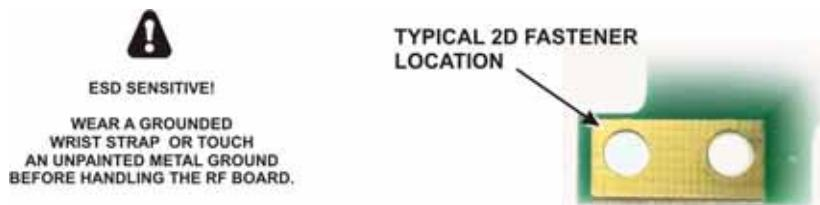
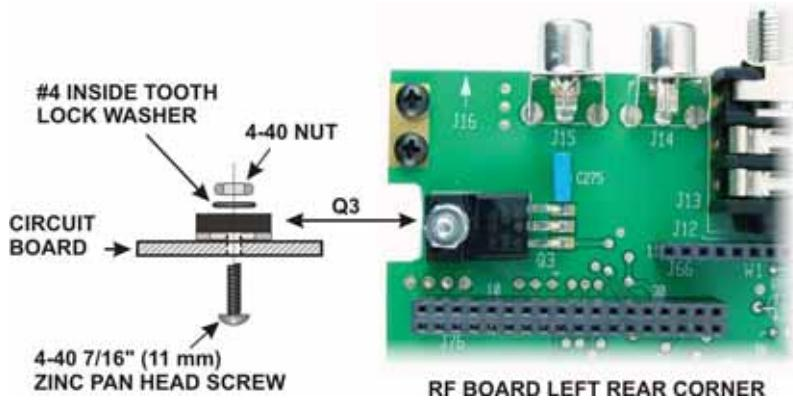
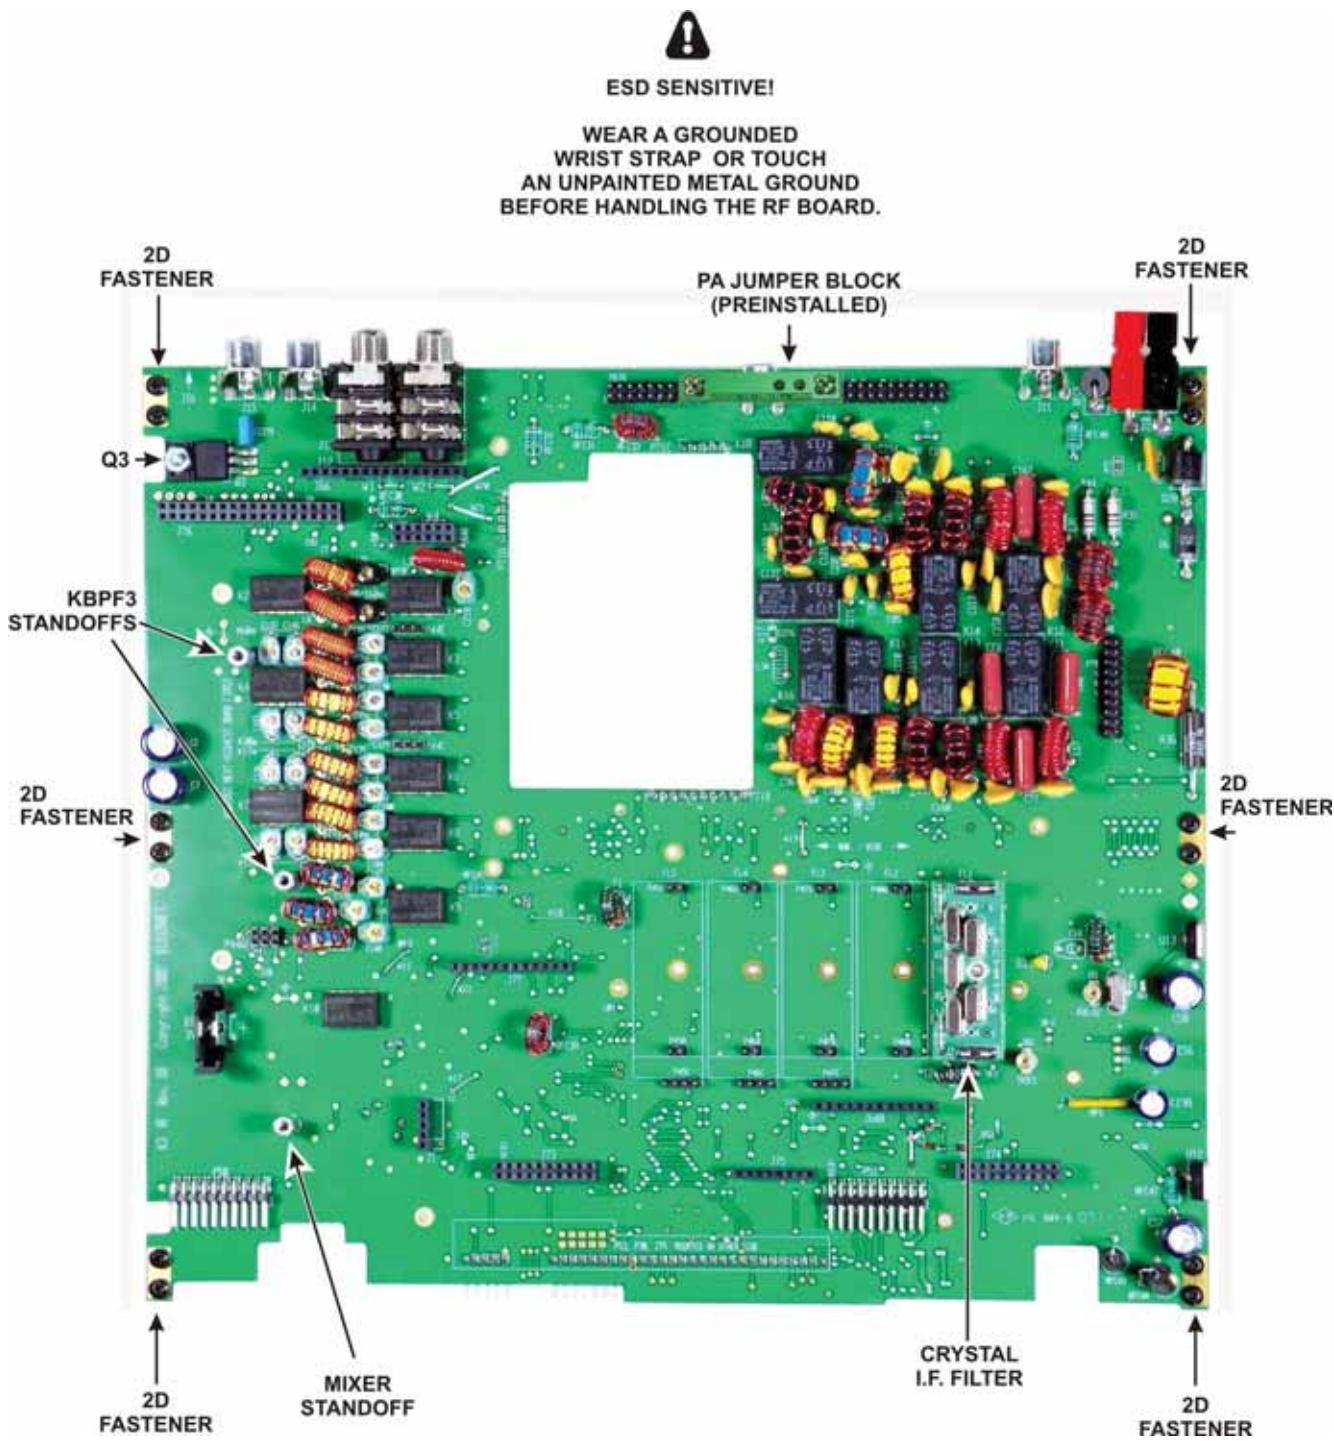

Figure 5. 2D Fastener Location on RF Board.
Figure 9. Installing Q3 Hardware.
Figure 11. RF Board Partially Assembled.
- Remove the RF board from its anti-static packaging. The top side of the board is the side with the toroid inductors and relays along with other components, including several connectors along one edge. The edge with the connectors is the back edge of the board, while the front edge has notches cut in it that will fit around front panel controls. Locate the six rectangular bare copper pads for the 2D fasteners (see Figure 5). There is one in each corner of the board and one in the center of each side (see Figure 11 on page 14).
Install a 4-40 3/8" (9.5 mm) standoff on the RF board near connector Z1 as shown in below and Figure 11 on page 14. This standoff will support the mixer to be installed later. Install the standoff using **three** lock washers as shown below with two of the lock washers between the standoff and the RF board.
- Install hardware to attach Q3 to the RF board near the rear left corner as shown in Figure 9 and Figure 11 on page 14.